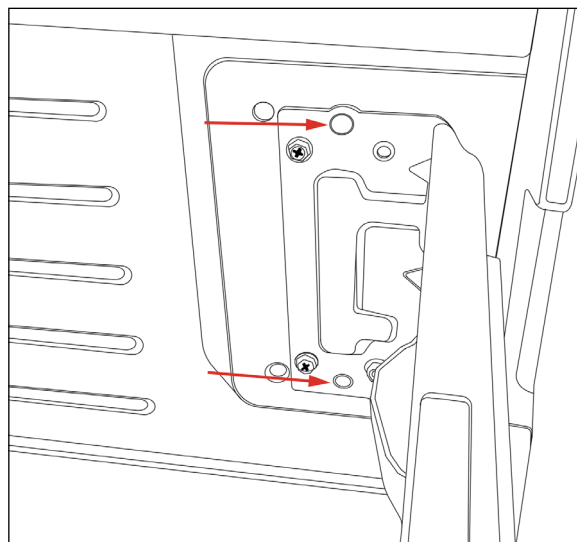

Figure 5
2. Ensure the 2 door studs on each door fit into the holes on the brackets (see *Figure 5*), then re-secure the 8 screws removed earlier. Hand tighten at first, then fully secure with a drill or screwdriver.